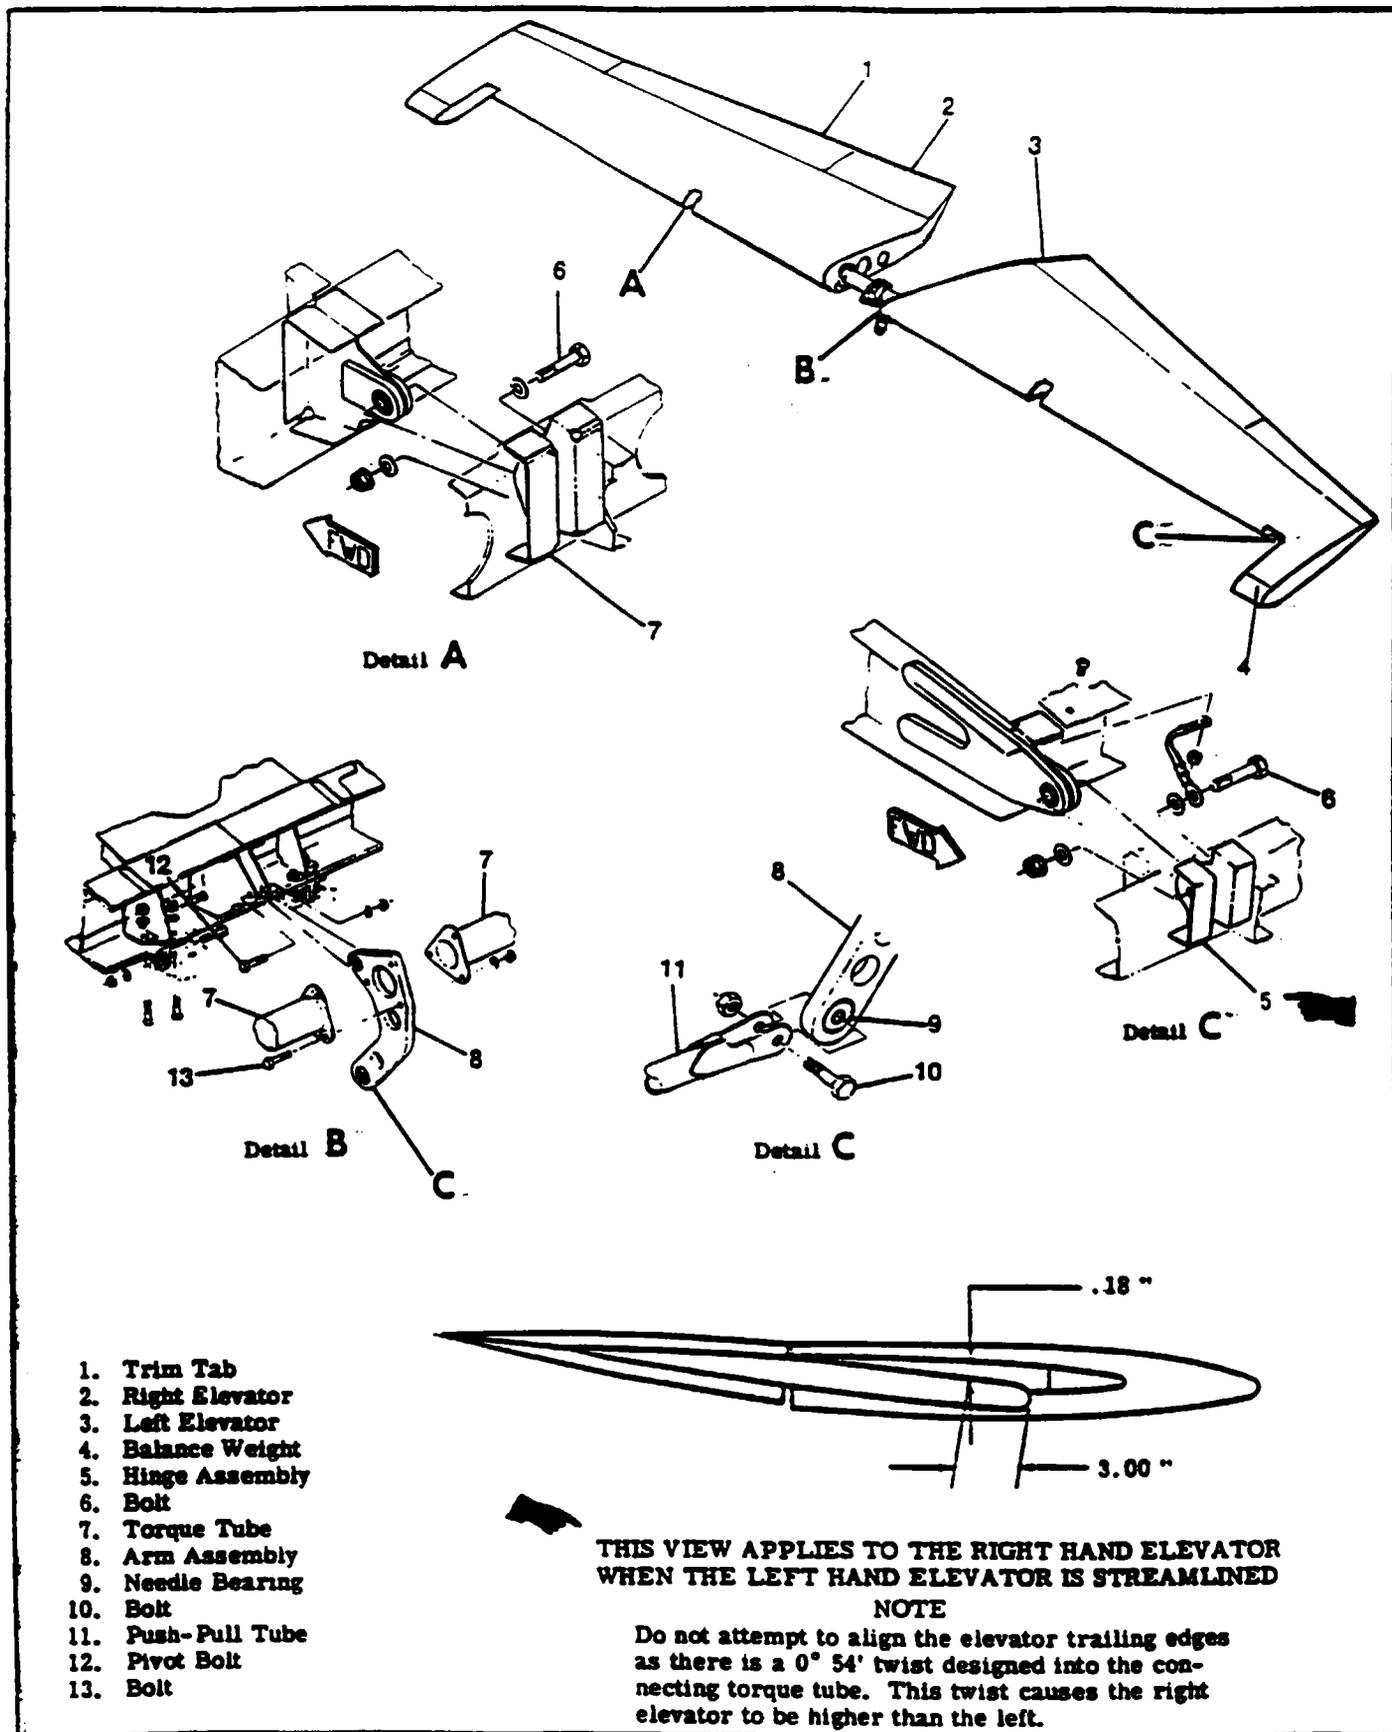

Figure 8-2. Elevator installation
8-5. ELEVATORS. (Refer to figure 8-2.)
- Remove bolts (6) from elevator hinges (5).
- Set right hand elevator maintaining 0.18" dimension specified in figure 8-2.
- When reinstalling bolts (13) install a washer under the head of each bolt and under each nut.
8-10. ARM ASSEMBLY. (Refer to figure 8-2.)
- b. Remove bolt (10) securing push-pull tube (11) to arm assembly (8).
- c. Remove bolts (13) securing elevator torque tubes (7) to arm assembly (8). A heat gun may be required to soften epoxy adhesive on bolt (13).
- d. Remove pivot bolt (12) securing arm assembly (8) and slide assembly from between elevator torque tubes.
- f. Set right hand elevator maintaining 0.18" dimension specified in figure 8-2.
- g. When reinstalling bolts (13) install a washer under the head of each bolt and under each nut. Apply Adhesive EA-9309 from Hysol Division, Dexter Corp., or its equivalent, only to the shanks of bolts (13). Wipe off excess adhesive after installation.
- b. Adjust turnbuckles (10) equally to streamline LEFT elevator with horizontal stabilizer (RIGHT elevator will be higher than the left as illustrated in figure 8-2) and to obtain 30 ± 10 lbs cable tension. Safety turnbuckles.